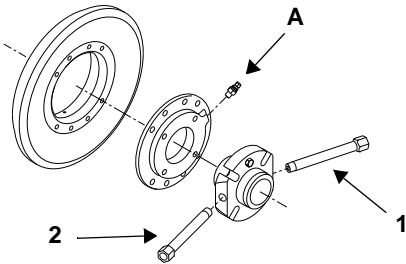

Fig. 4 Tandem seal arrangement with cartridge seal
1. Unscrew the connections for flushing fluid (pos. 1 and 2, fig. 4).